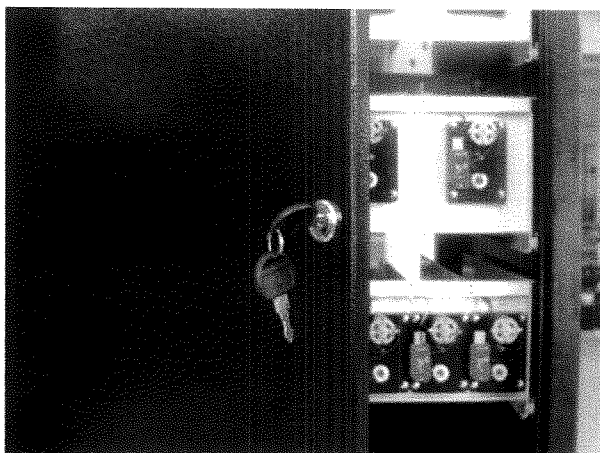

Figure 33 – Accessing the AC power supply and vending motors
To access the AC power supply, open the door on the back of the machine (*reference figure 33*).
In the snack and candy compartment, the motors are located behind the product tray. To access these motors, open the door located in the back of the machine (*reference figure 33*).
1. Open the back door on the vending machine (*reference figure 33*)